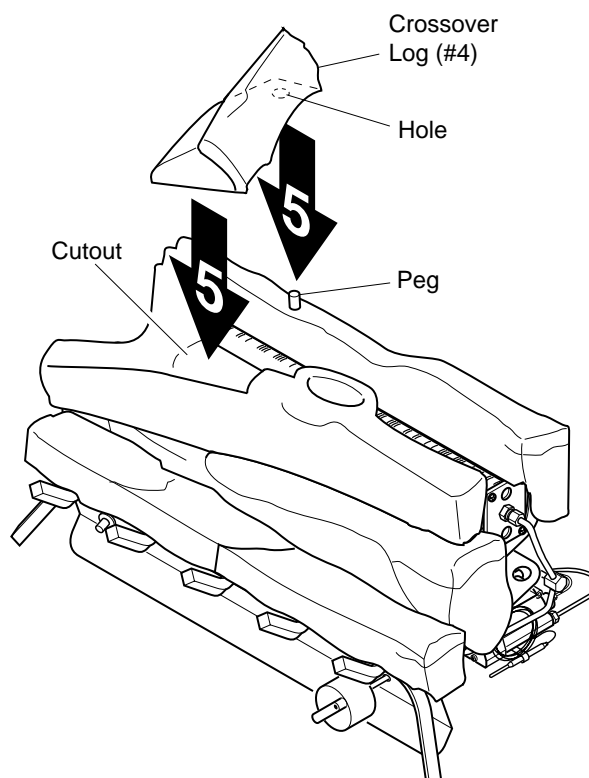

Figure 20 - Installing Crossover Log (#5)
4. Place the crossover log (#5) on the back log and the top middle log. Make sure the peg on the rear log is in the hole in the bottom of the crossover log. The crossover log should fit in the cutout of the top middle log (see Figure 20).